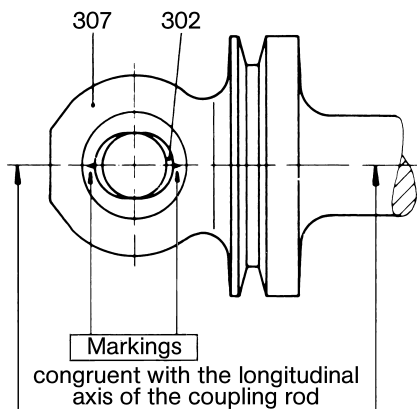

Figure 6: Pressing-in of the coupling rod bush
- With a brass drift, drive guide bushes (303) half-way into the rotor (401).
- Press coupling rod bush (302) into the coupling rod (307) so that the longitudinal axis of the oval hole (marked with two notches) coincides with the longitudinal axis of the coupling rod and the coupling rod bush protrudes symmetrically from both sides of the coupling rod (please refer to Figure 6 below).